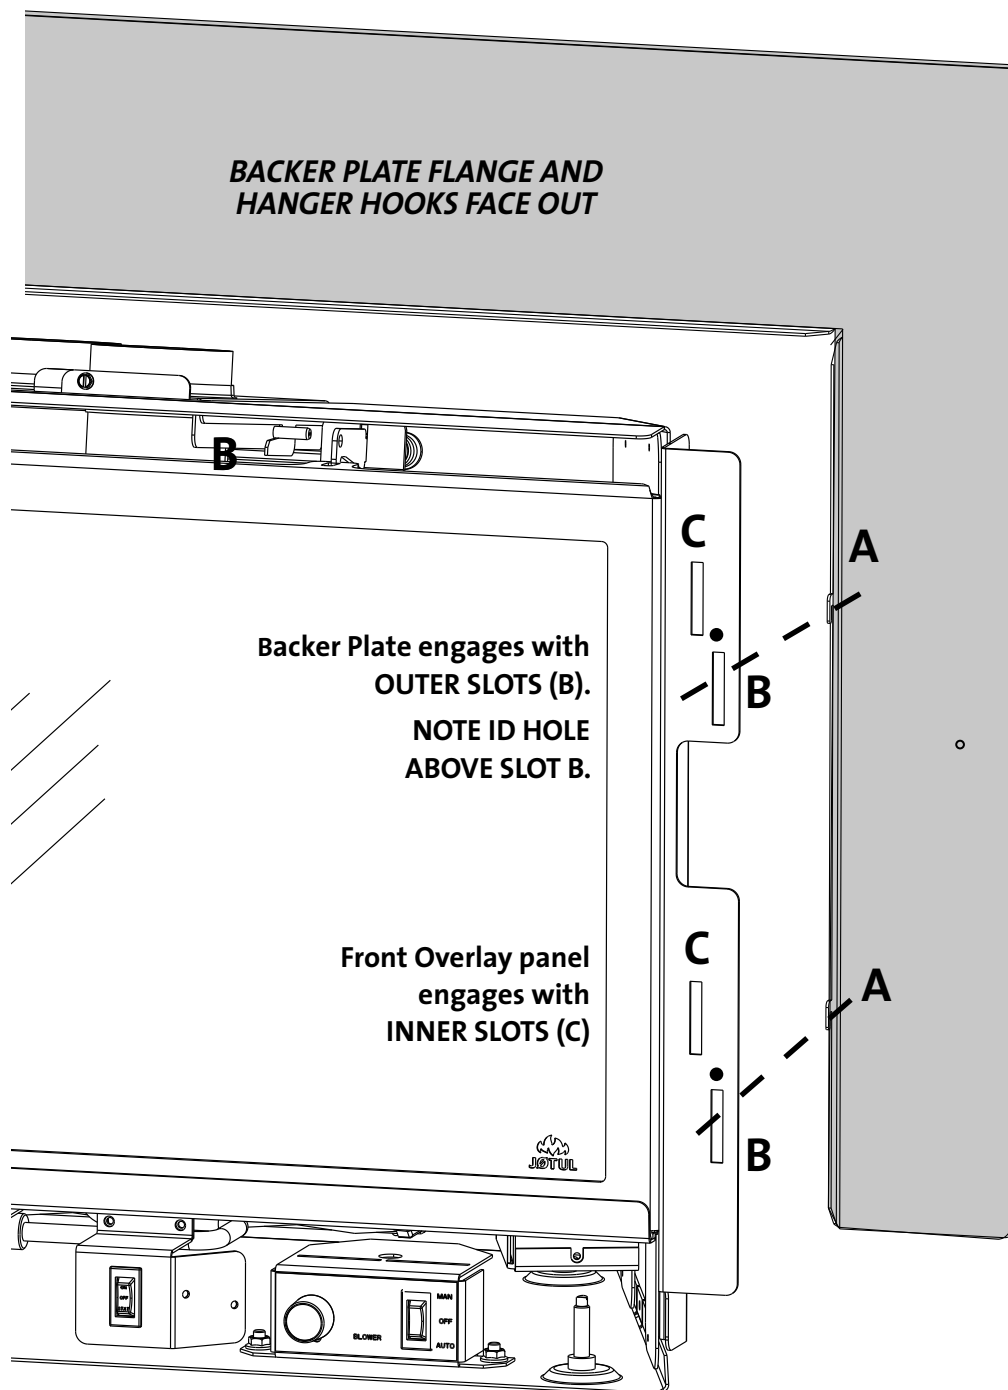

Figure 7.35
Both the Standard and Trimable Backer Plates incorporate four hanger hooks (A) that engage with the **outer** slots (B) through the **back** of the firebox brackets. Note the small identifying hole above each "B" slot. See fig. 7.35.